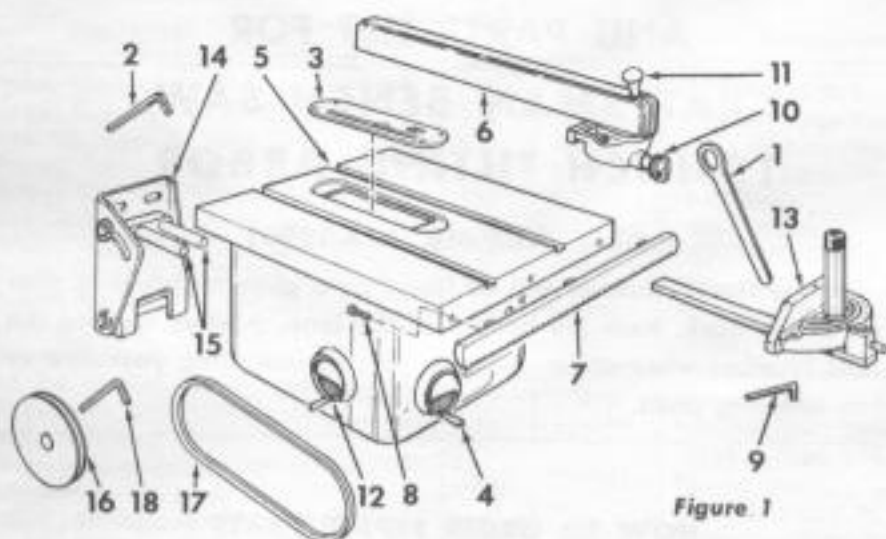
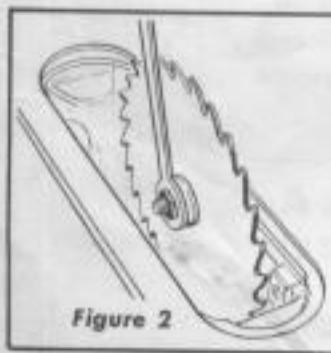
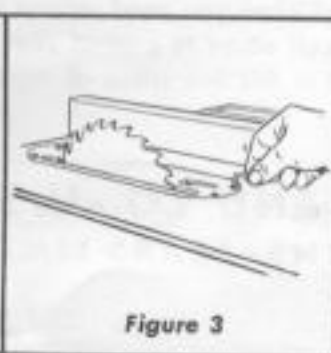
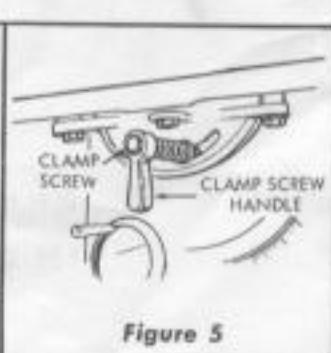

Figure 1
Figure 2
Figure 3
Figure 5
1. Remove the "loose" parts and clean them and the basic saw assembly thoroughly. (See figure 1.) Items having a rust-preventive coating, (saw table, etc.) can be cleaned with a cloth saturated with kerosene. Wipe other parts with a clean, dry cloth.
- a. Check tightness of saw arbor nut, using arbor wrench (1, figure 1) supplied with the saw. (See figure 2.)
- b. Adjust height of table insert (3, figure 1), until top surface is even with surface of table, if necessary, by rotating the four set screws in the table insert. Use Allen wrench (2, figure 1) to rotate set screws. (See figure 3.) Make sure that all four set screws are making contact with table by pressing the insert at each corner to see that it does not "wobble". After adjusting the insert, it may be necessary to bend the bottom of the insert clamp slightly in order to position the finger tang below the top surface of insert, and also retain sufficient spring tension to hold the insert securely in place.
- d. Using the elevation handwheel (4, figure 1) position saw blade for deepest cut in preparation for aligning the saw blade with table grooves.
- (2) Measure the distance from this tooth to the right-hand table groove (5, figure 1).
- (3) Rotate blade by hand to locate this (marked) saw tooth just above table top at rear of blade, and again measure the distance from the saw tooth to right-hand table groove.
- (4) These two measurements must be exactly the same. If not, tighten the clamp screw with clamp screw handle. (See figure 5.)
- (6) Shift the two trunnions until the two measurements are equal and tighten trunnion screws. Recheck measurements to make sure tightening screws did not upset the setting.
- e. Install the rip fence (6, figure 1) in accordance with the following routine:
- (1) Attach the rack (7, figure 1) to front edge of saw table with three screws (8). Position the rack with gear teeth facing downward and top edge of rack parallel with table top.
- (2) Pull out the rip fence knob (10, figure 1) to permit rip fence guide to slide over the rack (7). Then slide rip fence onto saw table.
- (3) Slide the fence along the rack while watching the clearance between lower edge of fence and table top. If any portion of the fence (except sliding pad at rear) drags on table top, or if clearance between fence and table top varies appreciably as the fence is moved, the rack must be re-adjusted. This is accomplished by loosening screws (8, figure 1) and re-positioning the rack until a consistent clearance exists over entire top surface of table.
- (1) Position the rip fence next to right-hand table groove (5, figure 1) and clamp it in place by pushing down the cam clamp lever (11). As the lever is pushed down to lock the fence, the fence should assume a position perfectly parallel to the table-top groove.
- (3) Install fence on saw table and lock it into position with clamp lever (11, figure 1). Move fence until perfectly parallel with groove and tighten the two front screws. (See figure 7 for screw locations.) Handle should be down, however, when screws are tightened.
- (4) Remove the fence and tighten the two rear screws. Install fence and recheck alignment.
- (1) Rotate elevation hand wheel (4, figure 1) to raise saw blade to deepest cut position.
- (2) Rotate tilt hand wheel (12, figure 1) clockwise until it will rotate no further.
- (3) With saw blade in position described above, tighten clamp screw with clamp handle to secure tilt mechanism. (See figure 5.)
- (5) If blade is not square with table, rotate the tilt hand wheel (12, figure 1) until pointer on tilt scale indicates approximately 10 degrees. Loosen two set screws in the stop collar located on the tilt screw nearest tilt hand wheel. (See figure 9.) Rotate stop collar on tilt screw clockwise (or counterclockwise) as required until the saw blade stops at precisely 90 degrees with table-top surface.
- (6) Tighten the two set screws in stop collar and rotate tilt hand wheel clockwise until it will turn no further and recheck the saw blade for squareness with table top. Several trial adjustments may be required before blade is square with table.
**h. Check the miter gauge (13, figure 1) for accuracy.** This gauge was set at the factory. During shipment, however, rough handling might have disturbed the setting. To assure maximum accuracy the "0" (zero) degree stop should be checked and adjusted (if required) as follows:
- a. Attach the motor selected for use to the motor base assembly (14, figure 1). Leave attaching bolts loose enough for motor to slide on motor base assembly.
- b. Mount the motor and base on the saw by sliding the two pins (15, figure 1) into mating holes at rear of saw cradle.
- c. Place pulley (16, figure 1) on motor shaft and align it with the pulley on saw arbor. Tighten motor attaching bolts and pulley set screw. Tighten the pulley set screw with the Allen wrench (18, figure 1).
- d. Install the V-belt (17, figure 1) on motor and saw pulleys.
- e. Adjust belt tension by moving motor support (14, figure 1) in or out of the cradle, as required. The motor should "hang" snugly against the belt (within the range provided) in order to utilize the automatic belt tightening feature. When adjustment is correct, secure it by tightening the two hex-head machine screws.
(1) This adjustment is necessary to prevent motor vibration and permit motor mount to move as its position is changed when saw blade is raised or lowered.